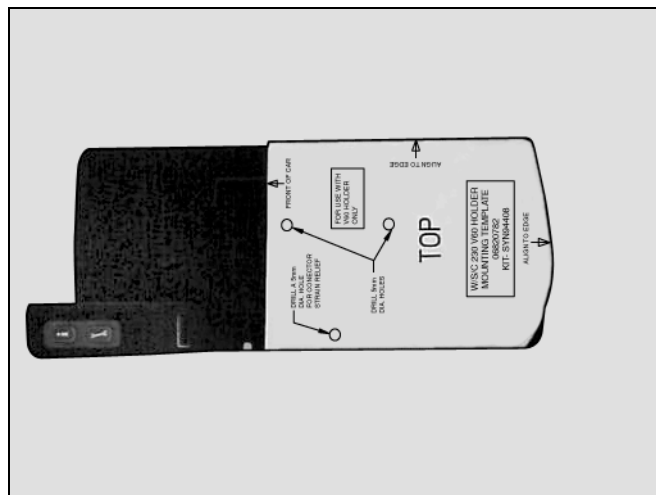

Figure 11
3. Place the V60 template atop of the false floor, making sure to align the template bottom and right edges with those of the false floor (Figure 11).